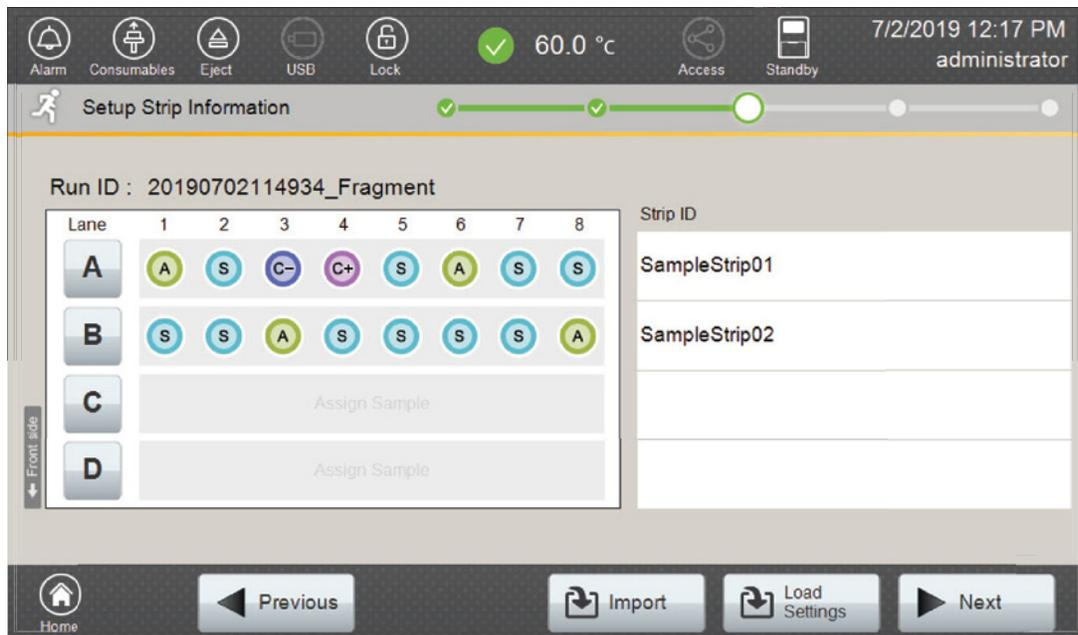

Figure 18. Completed 'Setup Strip Information' Screen.
13. After all the required lanes have been set up, select **Next** on the 'Setup Strip Information' screen to load the sample cartridge (Figure 18).